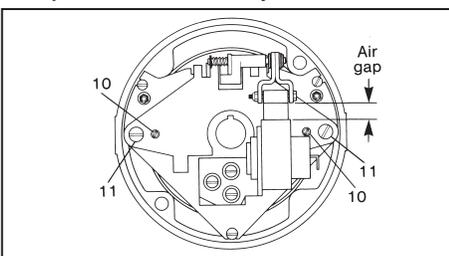

Figure 7
**Note 1:** Both adjustment screws (11) on Figure 7 must be turned equal amounts counterclockwise to decrease torque.
2. Manually lift solenoid plunger to maximum travel. Depress and allow solenoid plunger to snap out several times. See Figure 7. Measure solenoid air gap between mating surfaces of solenoid frame and solenoid plunger. (On vertically mounted brakes, it will be necessary to push solenoid plunger into solenoid frame to the point where spring pressure is felt, before measuring solenoid air gap.) As friction disc wear occurs the air gap will increase, as well as stopping time. If solenoid air gap exceeds 11/16", adjustment is necessary.
3. The solenoid air gap may be decreased by turning both wear adjustment screws (10) equal amounts clockwise, approximately 1/8 turn, until approximate solenoid gap is attained. Counterclockwise rotation will increase gap. See Figure 7. Repeat Step 2.